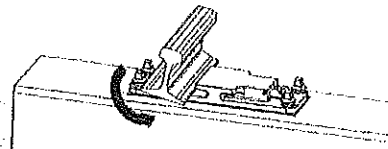

Fig. 22-Swivel stock rail into place
2. Swivel stock rail into place, Fig. 22. Ensure that the stock rail is in its proper position. The IFAST spring is normally pre-installed in its parking position.